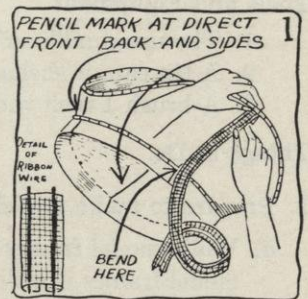

FIG. 1.
- a.* Put a pencil mark on both top and bottom facings at direct front, back, and sides of the brim (see Figure 1). Let the pencil mark extend from the edge up and on to the headsize band.
- c.* Place the turned-in end of the ribbon wire against the facing of the brim, which you decided to reënforce, and directly under the edgewire at direct side of brim (see Figure 1).